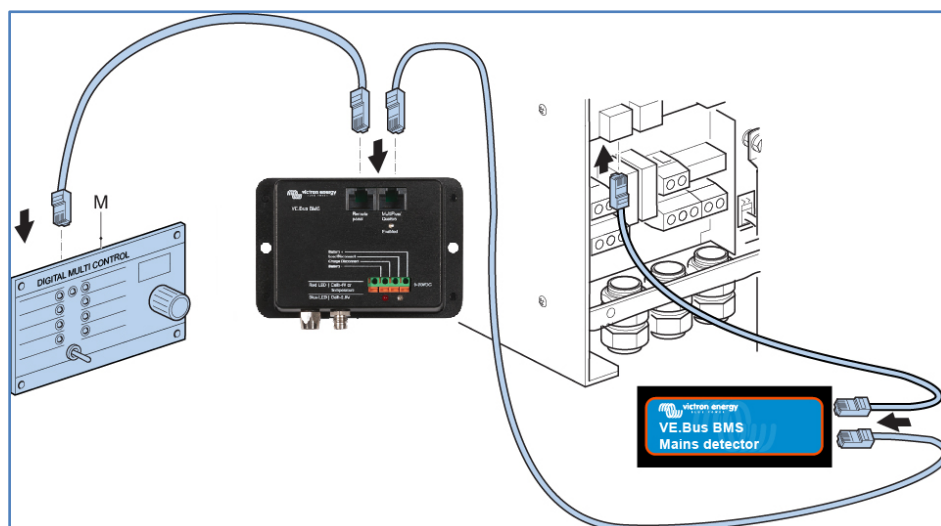

Figure 4: VE.Bus connections
3. Use the short RJ45 UTP cable to connect the AC Detector to one of the two the VE.Bus sockets in the MultiPlus or Quattro (see figure 4).